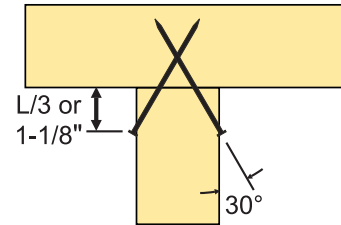
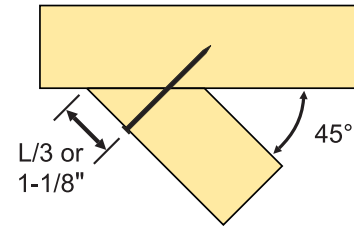

Figure 2. End jack to hip girder.
Figure 3. Corner jack to corner girder.
(NDS®) for Wood Construction. The capacities listed can be used for toe-nailed connections for attaching a 2x_ end jack truss to a single or multiple 2x_ hip girder truss (see Figure 2 on page 16) or for toe-nailed connections for attaching a 2x_ corner jack truss to a corner girder truss that intersect at a 45° angle as shown in Figure 3. Please note that the connection between the corner jack and corner girder assumes that the chords of the jack truss are bevel cut and that the nails are driven at a 90° angle to the face of the jack into the girder
- Nominal lateral capacities are based on framing conditions depicted in Figures 2 and 3.
In both cases, the nails are assumed to be installed at either L/3 (i.e. length of nail divided by 3) or 1-1/8" from the end of the jack truss (see Figures 2 and 3 above).